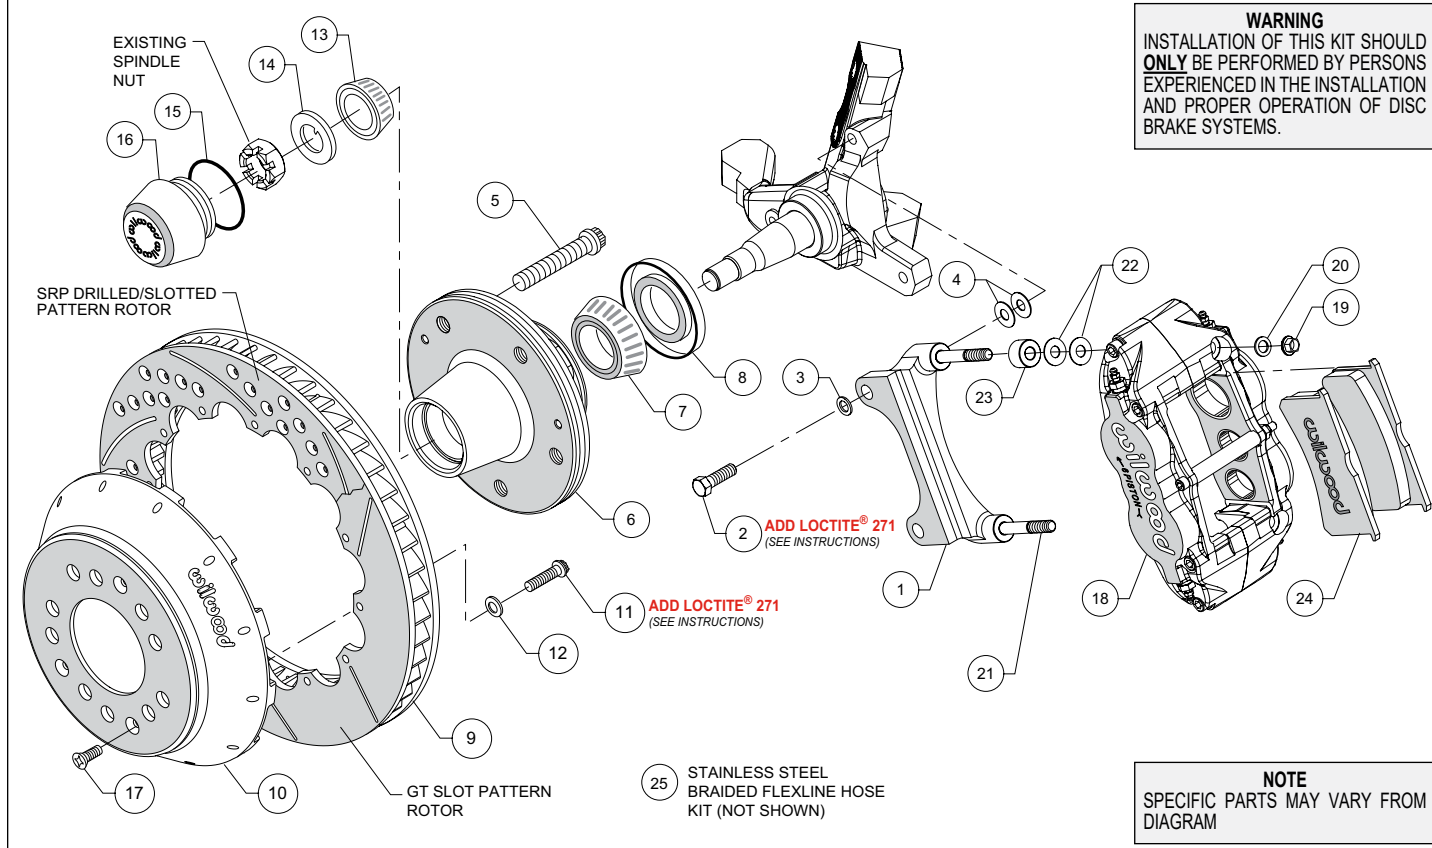

Figure 2. Typical Installation Configuration
Assembly Instructions (numbers in parenthesis refer to the parts list on the preceding page, and Figure 2):
- The caliper mount bracket (1) should initially be installed with clean, dry threads on the mounting bolts. Orient the bracket as shown in Figure 2 and Photo 1, and install using bolts (2) and washers (3). Initially place two .033" thick shims (4) on each bolt between the bracket and upright, Figure 2 and Photo 1. Temporarily tighten the mounting bolts. **NOTE: The bracket must fit squarely against the mount bosses on the upright.** Inspect for interference from casting irregularities, machining ridges, burrs, etc. Later, after the caliper alignment has been checked, the mount bolts will be secured using red Loctite® 271.
- Install wheel studs (5) into the hub (6), Photo 2. Torque to 77 ft-lb.
- Pack the large inner bearing cone (7) with high temperature disc brake bearing grease (available from your local auto parts store) and install into the backside of the hub (6), Photo 3.